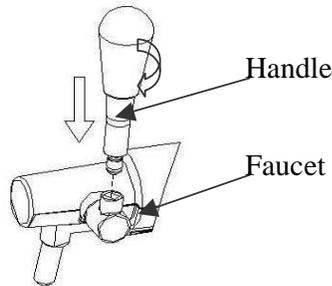

Figure 6
2. Install the tap handle to the faucet by turning clockwise, make sure both end fit together perfectly. (Show as Figure 6)